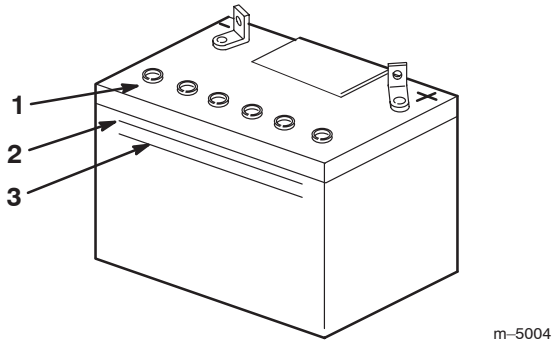

Figure 63
3. Look at the side of the battery. The electrolyte must be up to the **upper** line (Fig. 63).
Note: Do not allow the electrolyte to get below the **lower** line (Fig. 63).
3. Remove the vent caps from the battery (Fig. 63).
4. Slowly pour distilled water into each battery cell until the level is up to the **upper** line (Fig. 63) on the battery case.
5. Wait 5 to 10 minutes after filling the battery cells, then add distilled water, if necessary, until the electrolyte level is up to the **upper** line (Fig. 63) on the battery case.